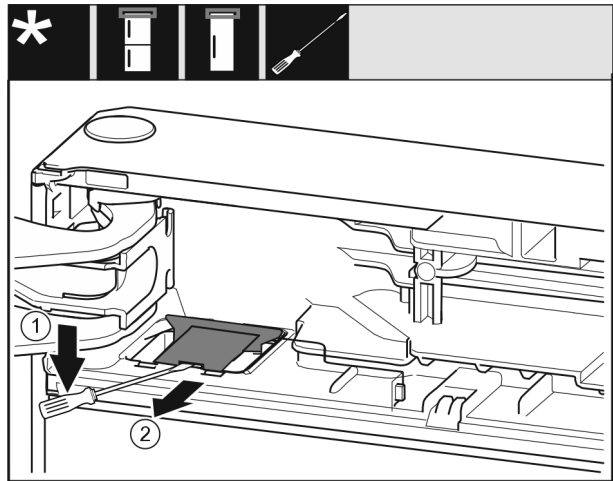

Fig. 10
- ▶ Unlatch the cover with a slotted screwdriver and lift it up. Fig. 10 (1)
- ▶ Take out the cover. Fig. 10 (2)